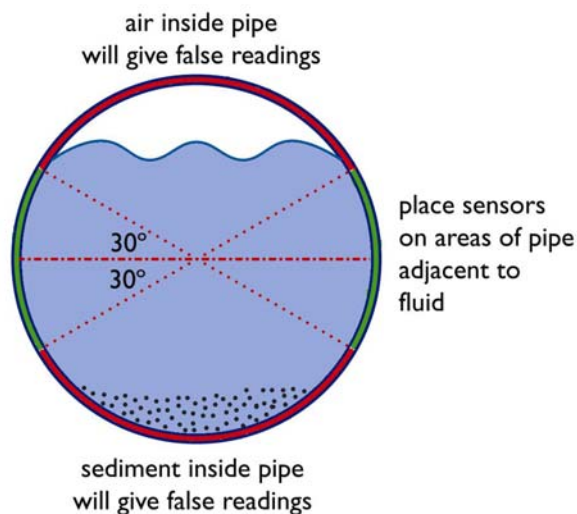

Figure 14: Transducer placement on horizontal pipe run
3. For horizontal pipe runs, transducers should be placed within a cone 30° above and 30° below the horizontal axis of pipe to avoid signal interference from air and sediment (see figure 14).